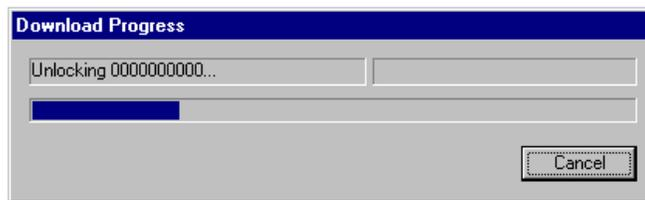

Figure F-3 Progress Window
- 10) **Vxcomm.exe** begins looking for the DuraTrax/LaserLite. Press any button on the DuraTrax/LaserLite to begin the transfer. A window opens (Figure F-3) and reports the progress of the transfer.